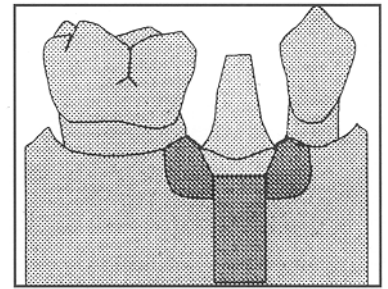

Fig.6
6. The Impression Screw is then removed and the Prosthetic Screw substituted. The abutment is prepared to simulate the preparation of a natural tooth for a full crown restoration (Fig. 6).